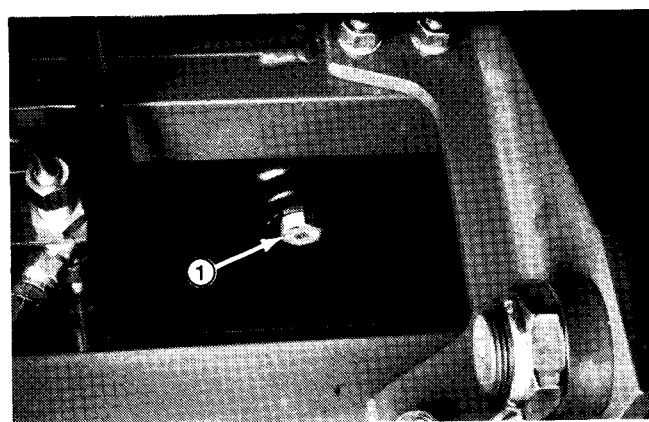

Figure 52
1. Put drain pan under reservoir. Remove drain plug and drain cap, one at a time, and let oil drain into pan (Fig. 52). Inspect o-rings on plug and cap, and replace, if damaged. Install drain plug and cap.